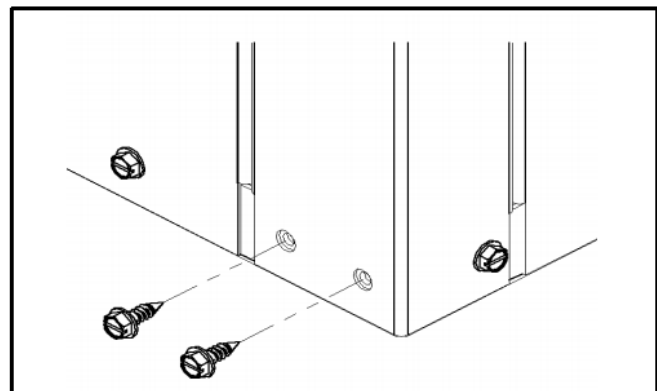

Fig. 5 — Removing Factory Screws
1. Remove and discard factory-provided screws from location where hanging brackets will be installed. See Fig. 5.